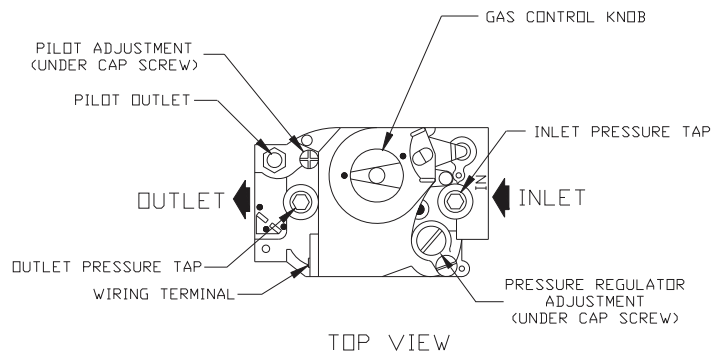

FIGURE 24a: GAS VALVE DETAIL - HONEYWELL VR8204 AND VR8304
- a) Connect a manometer to the inlet pressure tap on the gas valve (see Figures 24a and 24b).
- c) Connect a manometer to the manifold (outlet) pressure tap on the gas valve (see Figures 24a and 24b).